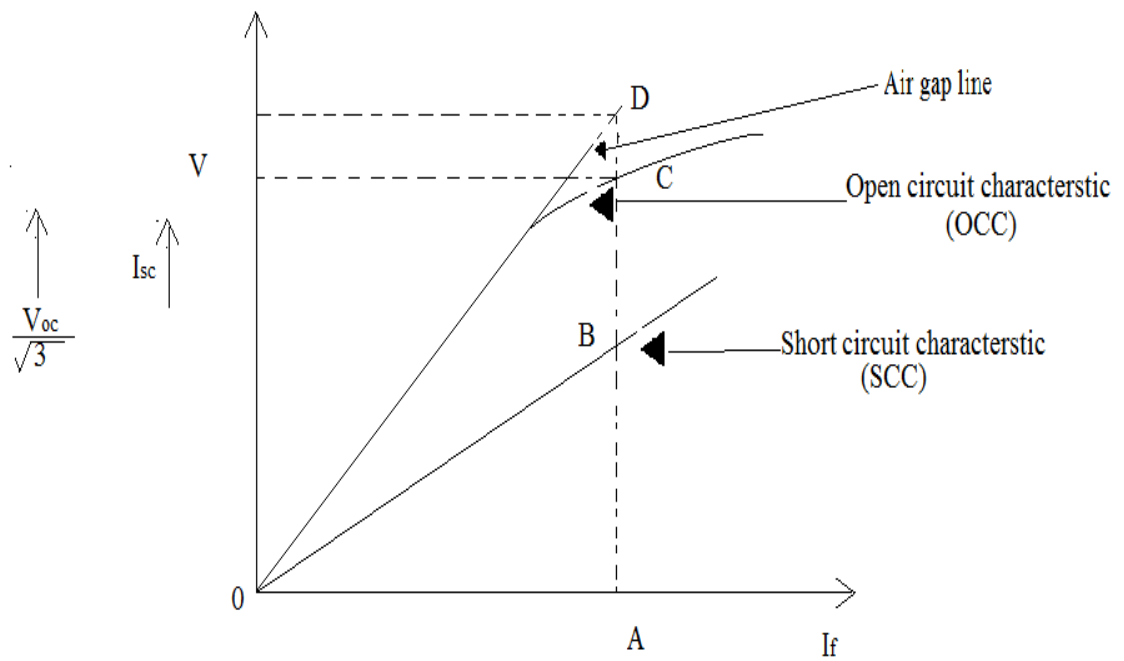

FIG 6.2 : Open and short circuit characteristics
1. Plot OCC and SCC on the same axes (as shown in Fig. 6.2).
4. Determine the voltage regulation of alternator at unity power factor using the equivalent circuit of item 3.
5. Determine and draw the load characteristics, i.e. plot of terminal voltage against load current of alternator at unity power factor using the equivalent circuit of item 3.
6. On the same axes as for item 5 above, draw the load characteristics as determined experimentally.
7. Discuss the results obtained in items 5 and 6.
8. Compare the regulation as calculated in item 4 and as determined from the characteristic in item 6.